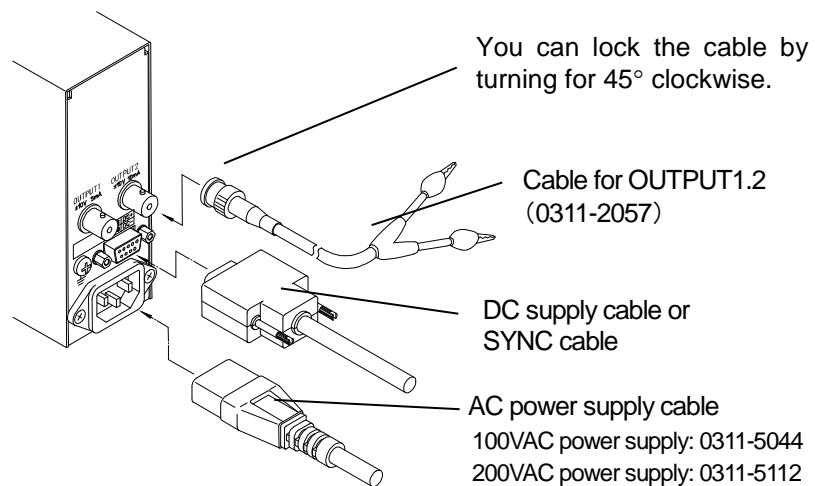

Fig.3-2 Connections of power supply cable and output cable
3.1.2 Connections of Power Supply Cable and Output Cable (See Fig.3-2)